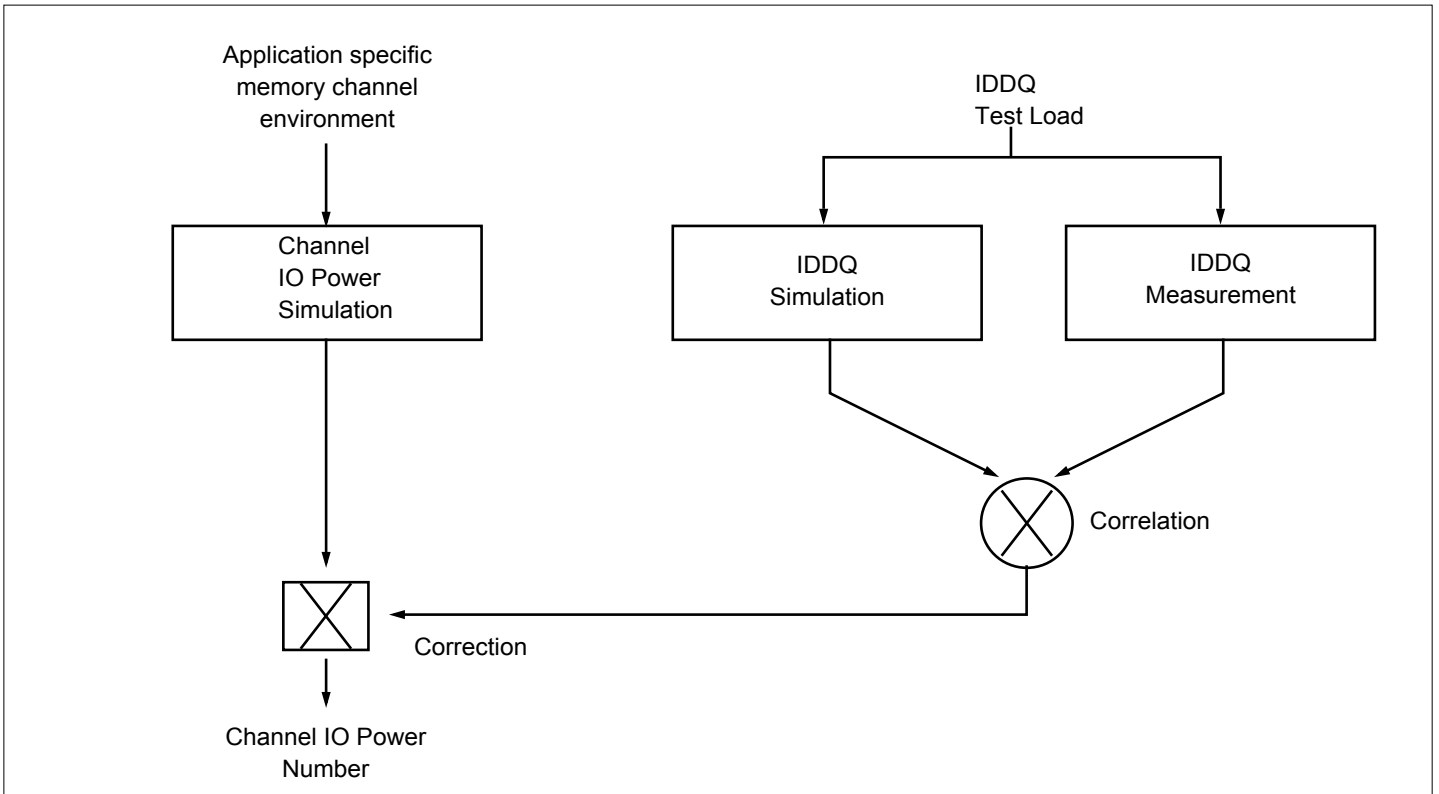

Figure 20. Correlation from simulated Channel IO Power to actual Channel IO Power supported by  $I_{DDQ}$  Measurement.
**Attention** : IDDQ values cannot be directly used to calculate IO power of the DDR3 SDRAM. They can be used to support correlation of simulated IO power to actual IO power as outlined in Figure 20. In DRAM module application, IDDQ cannot be measured separately since  $V_{DD}$  and  $V_{DDQ}$  are using one merged-power layer in Module PCB.